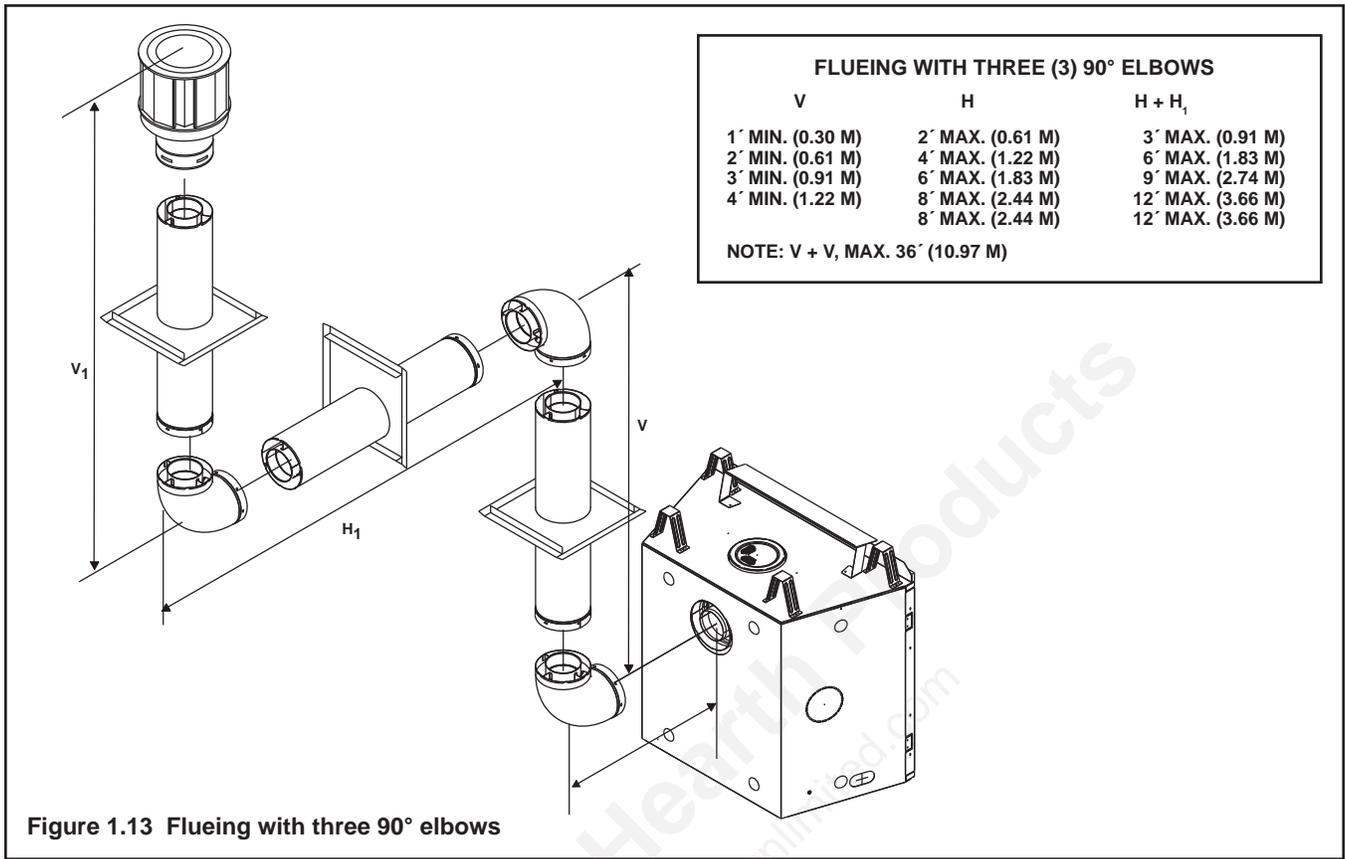

Figure 1.13 Flueing with three 90° elbows
Figures 1.13 through 1.15 show examples of possible installations using three (3) 90-degree elbows. Dimensions V are listed **MINIMUM** first vertical dimensions and dimensions H are listed as beginning **MAXIMUM** horizontal dimensions. Dimensions $H + H_1$ and $H + H_1 + H_2$ are listed as **TOTAL MAXIMUM** horizontal dimensions. Dimensions $V + V_1$ are listed as **TOTAL MAXIMUM** vertical dimensions.